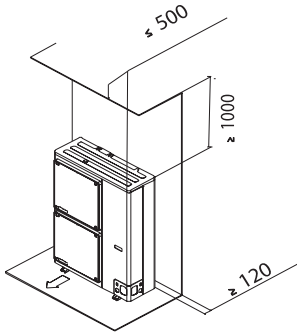

Figure 4
- One obstacle exists at the air intake side (see Figure 4)